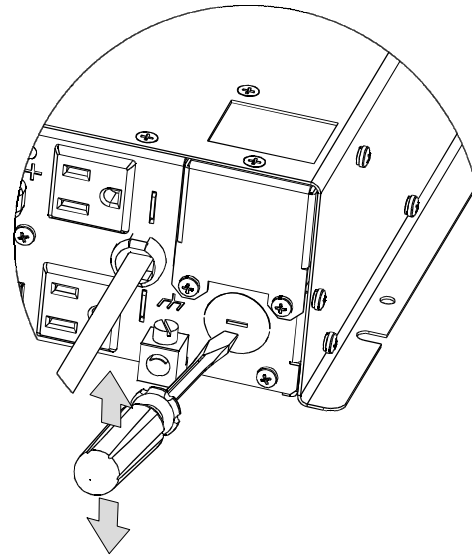

Figure 8 Removing the knockout
2. Remove the knockout using a slot screwdriver as shown in Figure 8. Do not leave the knockout inside the wiring box.